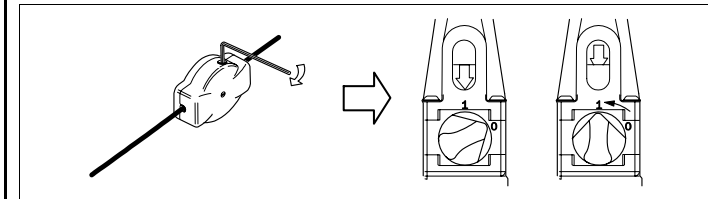

Fig. 4: Adjusting the rope tension
- Using the spring and the rope status indicator, tension rope to required amount (see Fig. 4).